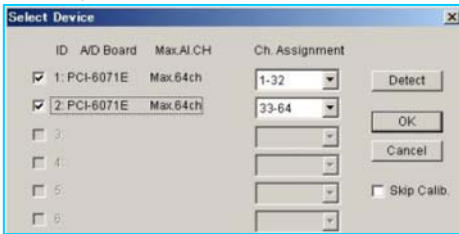
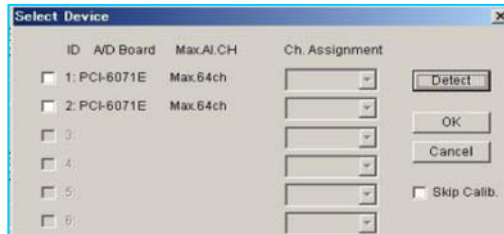

Figure. 1-2
Figure. 1-3
- 3) Select [Setting] – [A/D Device(s)] to open the dialog box shown in Figure.1-2.
Confirm that Conductor recognizes the NI-DAQ boards and select the board and channels as seen in the Figure.1-2. Then, click OK.
If the NI-DAQ boards don't appear as two devices as seen in the figure.1-3, click on [Detect]. When the check marks appear as seen in the Figure1-2, click OK.